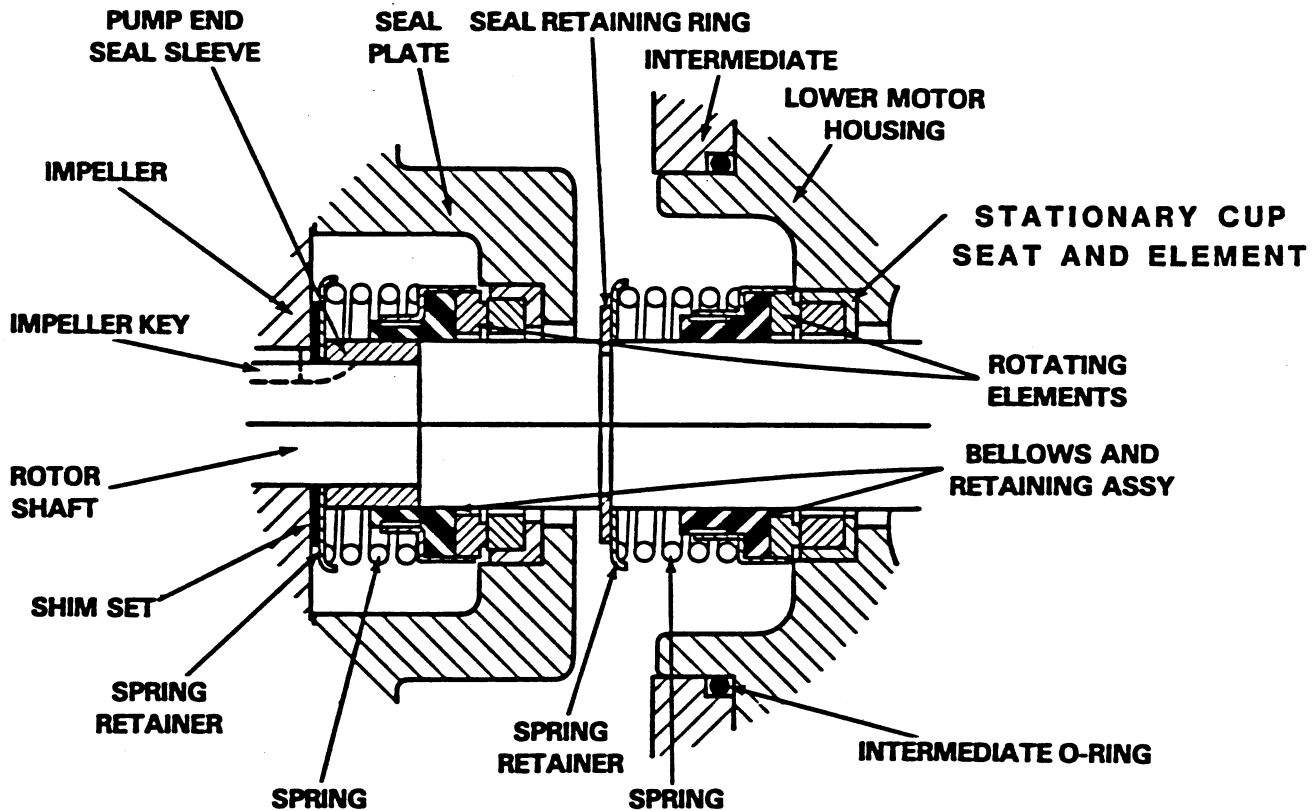

Figure 3. Seal Assemblies S01841 and S01832
Install the shaft seals as illustrated in Figure 3.
Slide the seal spring over the bellows retainer, and install the spring retainer. Install the seal retaining ring (77). See Figure 3 for proper order of seal assembly.
Slide the seal spring over the bellows retainer, and install the spring retainer. See Figure 3 for proper order of seal assembly.